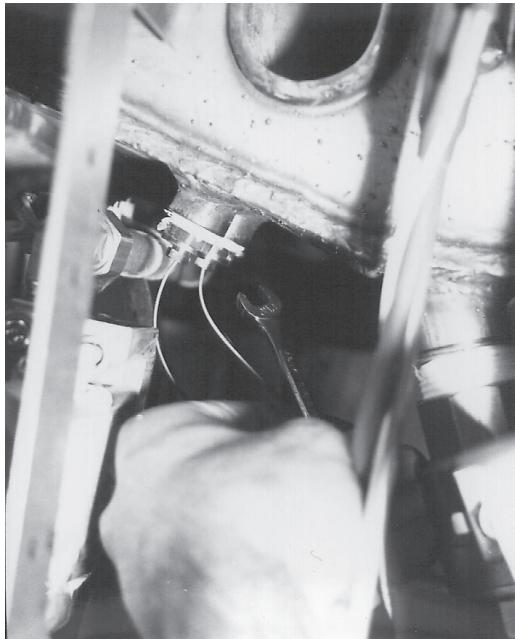

Fig. 31
7. The high limit fitting is the one toward the rear of the tank. With  $\frac{1}{2}$ " wrench, remove the high limit packing nut. (Fig. 31)